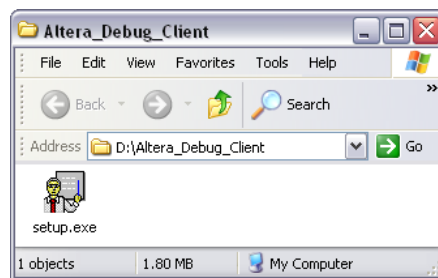

Figure 1. Altera Debug Client installer on DE2 System CD.
1. Use **Microsoft Windows Explorer** to open the folder *Altera_Debug_Client* on the DE2 CD-ROM. As shown in Figure 1, the folder will contain a single executable file named *setup.exe*.